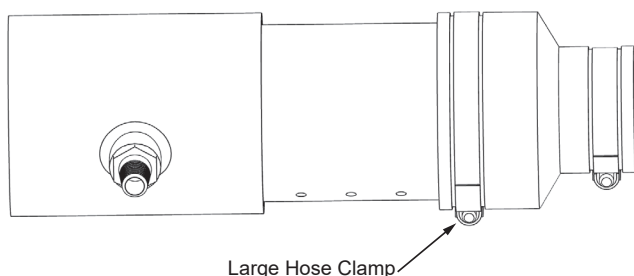

**Figure 25. Intake Air Tee Fitting - Side View**
3. Loosen the large hose clamp on the Fernco coupling that connects the intake-air connection pipe to the combustion blower. See **Figure 25** (page 31).